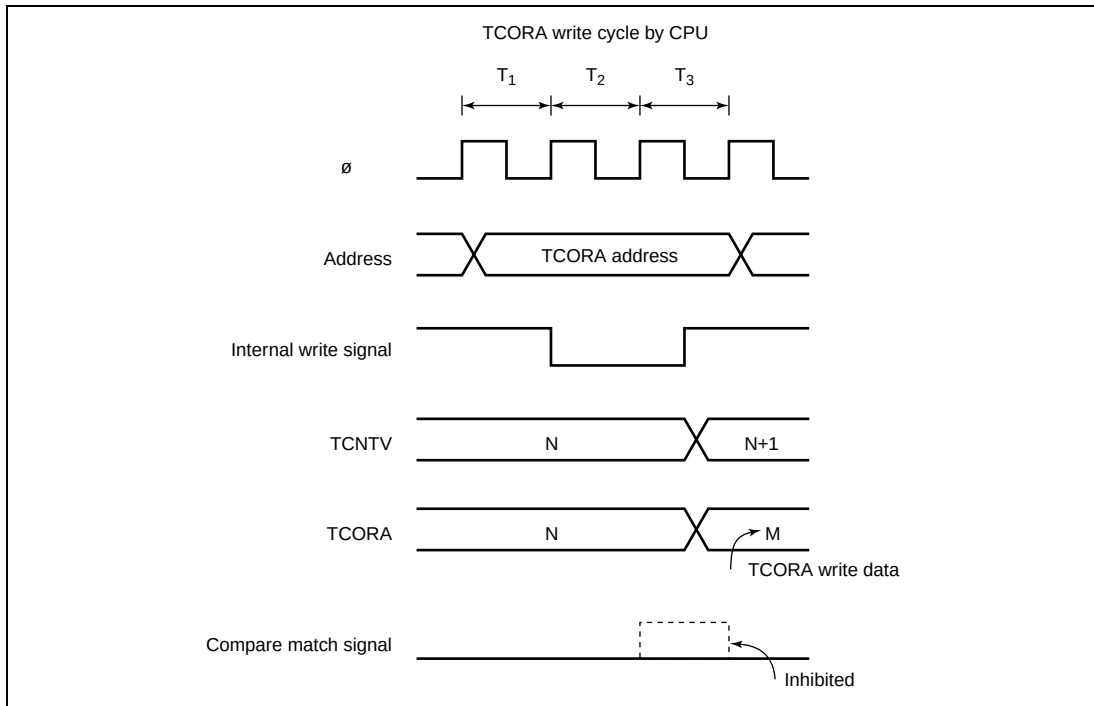

Figure 10-12 Contention between TCORA Write and Compare Match
2. If a compare match is generated in the T3 state of a TCORA or TCORB write cycle, the write to TCORA or TCORB takes precedence and the compare match signal is inhibited. Figure 10-12 shows the timing.